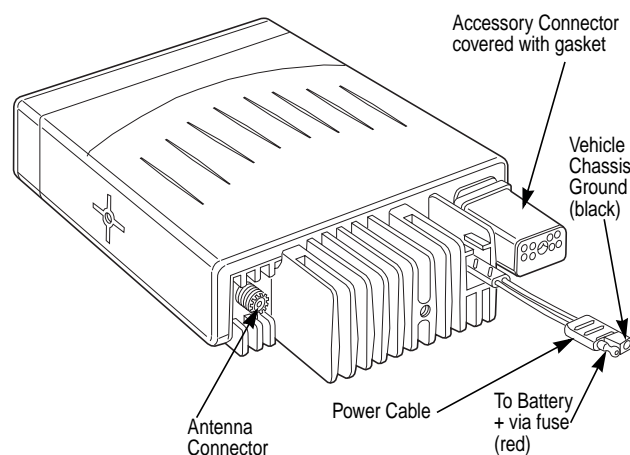
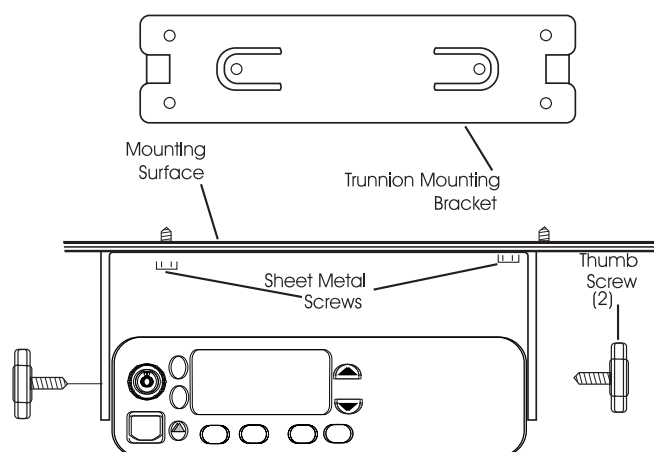

Figure 2-4. 30 W & 35 W Connections to Radio Rear Panel
*Figure 2-7. 12 W & 15 W Connections to Radio Rear Panel*
7. Connect the antenna cable connector to the radio antenna connector on the rear of the radio. See Figure 2-4.
10. To complete your radio installation, plug the power cable into the radio power cable. Refer to Figure 2-4.
7. Connect the antenna cable connector to the radio antenna connector on the rear of the radio. See Figure 2-7.
10. To complete your radio installation, plug the power cable into the radio power connector. Refer to Figure 2-7.
7. Insert the external speaker accessory plug into the accessory connector of radio. Refer to Figure 2-7 for 12 W and 15 W radios or Figure 2-4 for 30 W and 35 W radios.